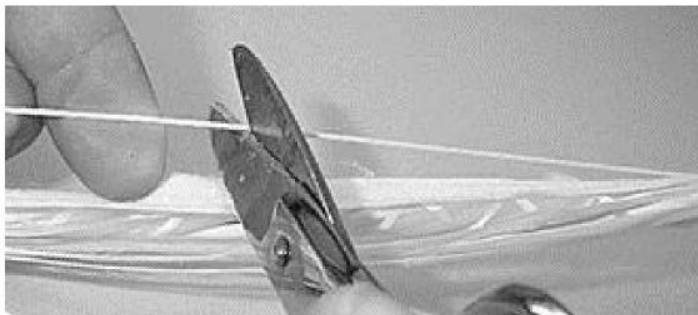

Figure 21 . Cut the ripcord
5.7 Locate the cable ripcord and cut it in the middle to allow for sheath removal later (Figure 21).